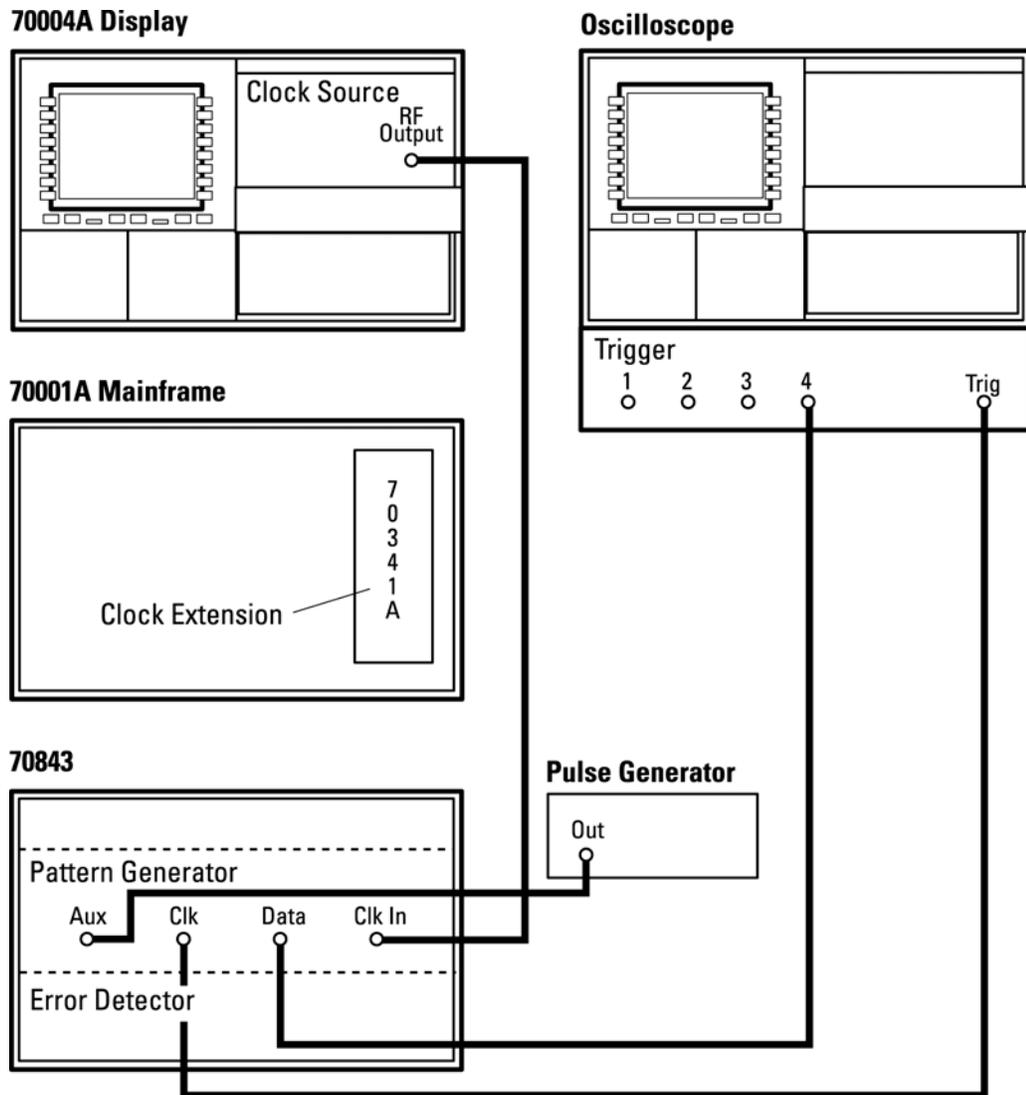

Figure 11-11
1. Connect a pulse generator to the AUXILIARY INPUT port on the pattern generator front panel as shown in Figure 11-11.